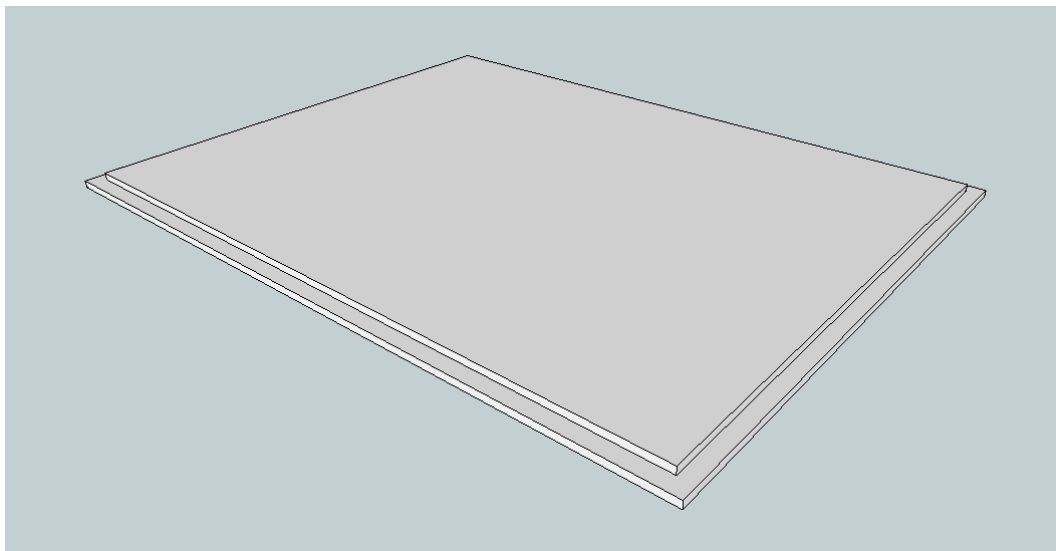

Figure 14: Door Panel with Rabbet Cut
3. Remove a $\frac{1}{2}$ " wide, $\frac{1}{4}$ " thick ring around the door panels. This will allow the panel to fit into the groove on the rails and stiles. This cut is referred to as a rebate or a rabbet cut. See Figure 14.